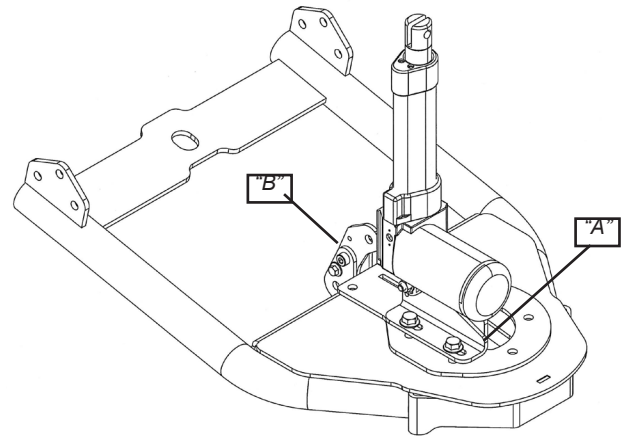

Figure 1 Plow Lift in position "A"
1. This electric plow lift has been designed to mount to the WARN plow in either of the two locations shown in Figure 1. Lift is mounted in position "A" and this should be the best location for most vehicles. Position "B" will provide the fastest lift speed and allow electric plow lift to be used with WARN Power-Pivot. The lift motor will be toward the back of plow when using bracket "B" to mount the lift.